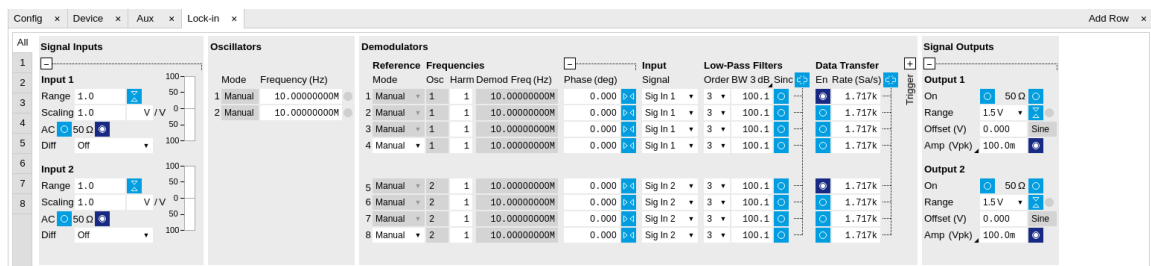

Figure 4.10. LabOne User Interface Lock-in tab - Parameter table (All)
The parameter table (see Figure 4.10) consists of 4 vertical sections: Signal Inputs, Oscillators, Demodulators and Signal Outputs. The Demodulator section is horizontally divided into two identical groups. The upper group is tied to oscillator 1 and the lower group is tied to oscillator 2. That means demodulators 1 to 4 (5 to 8) can demodulate input signals at the frequency of oscillator 1 (2) and higher multiples. Demodulators 4 and 8 can be used for external referencing. Every demodulator can be connected to any of the possible inputs and outputs. Signal Input 1 and 2 are identical in all aspects, the same holds for the Signal Outputs 1 and 2.